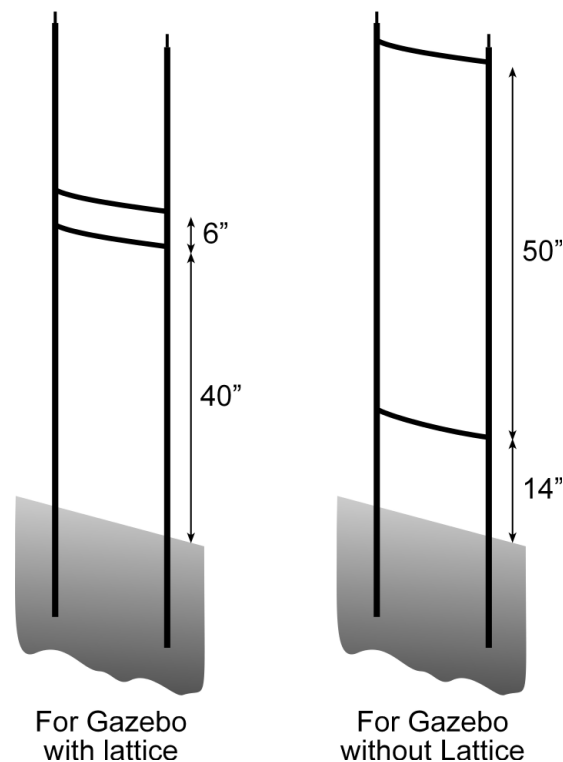

Figure 3: Position the Spacer Bars on the Uprights
17. Attach 2 spacer bars to each of the uprights, position the spacer bar as per Figure 3.